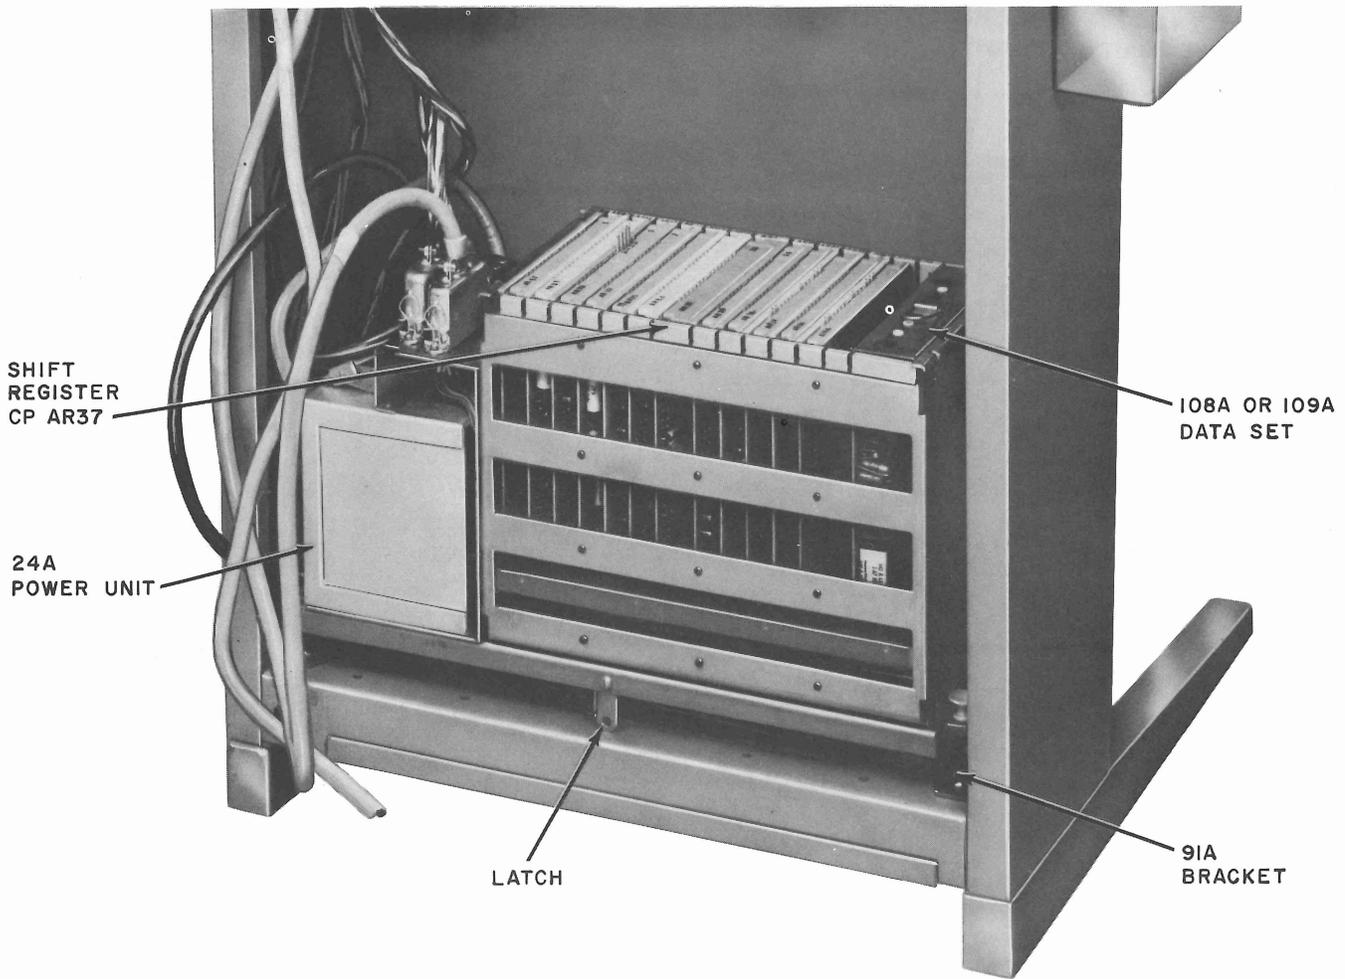

Fig. 2 — Data Auxiliary Set 820B2, Location For 33-Type TTY's, 33 ASR Illustrated
- (1) Rotate latch counterclockwise (Fig. 2). This allows DAS 820B1 or 820B2 to pivot on the 91A bracket.